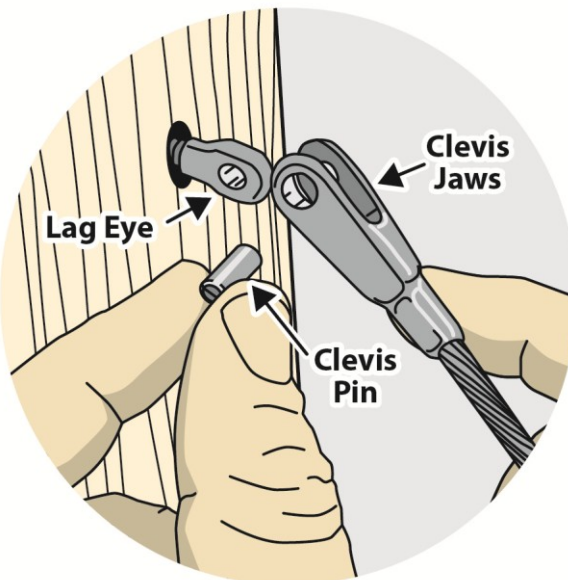

Fig 8
- Unscrew Clevis Pin (Fig. 8 & 9)
- Engage Clevis Jaws (Fig. 8 & 9)